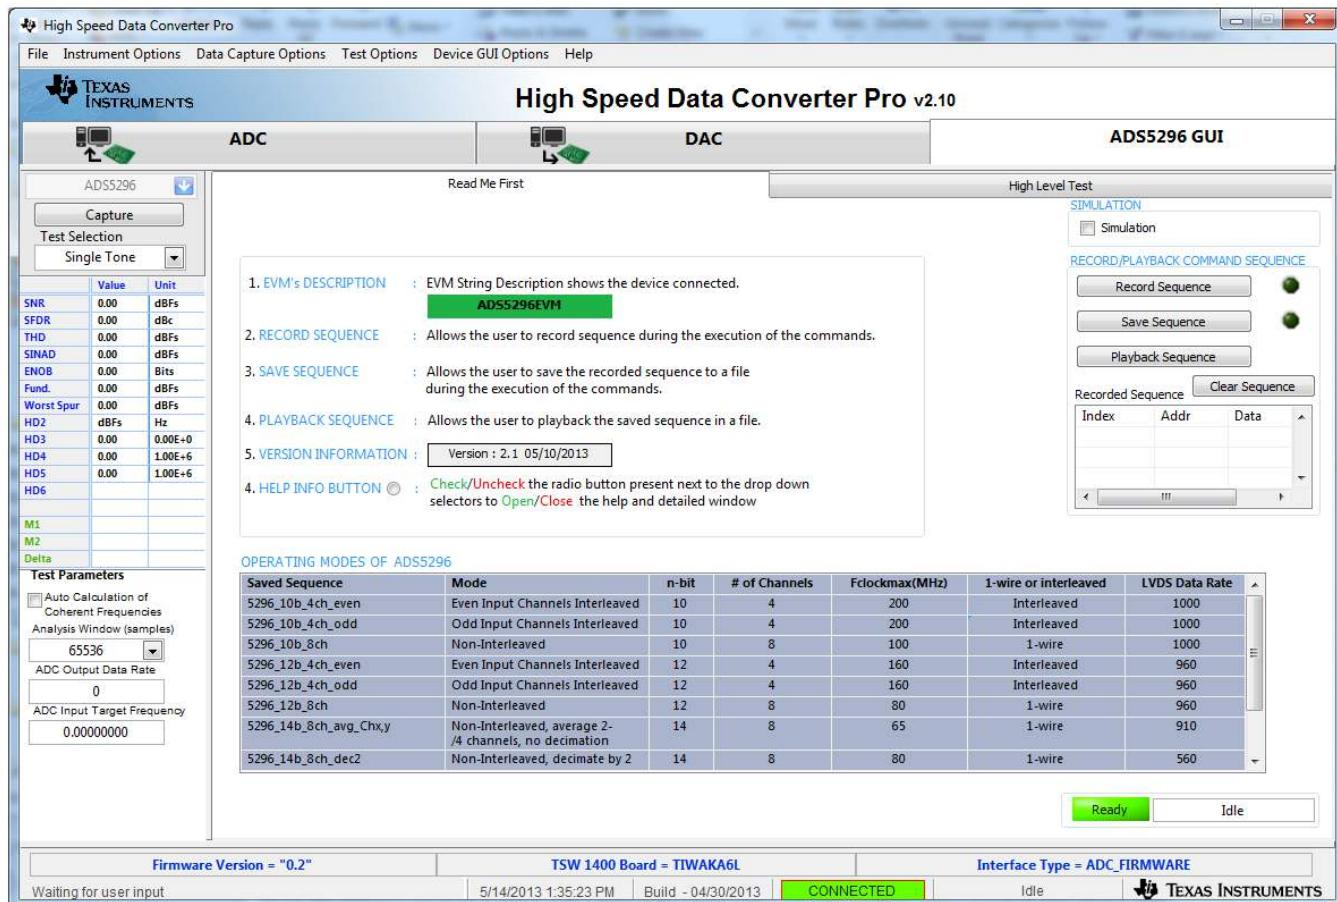

Figure 29. ADS5296 Plug-in GUI Setup (b)
3. Click on the tab **ADS5296 GUI** to view the software GUI for the ADS5296. The GUI consists of two tabs: *Read Me First* and *High Level Test* as shown in Figure 29.